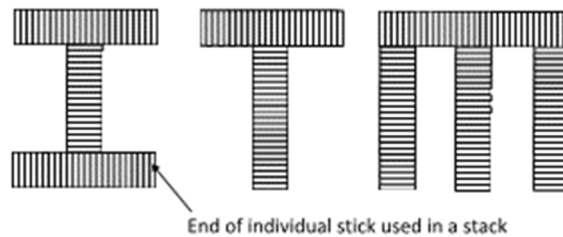
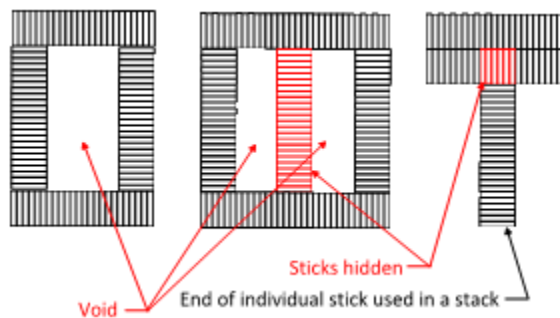

Figure 3.3: End view of members built in accordance to the 2024 Official Rules and Building Code
Figure 3.4: End view of members with voids and hidden sticks.
- At least one entire side of the longest dimension (typically the edge or face) of each Popsicle stick used must be visible for judging. Figure 3.3 illustrates appropriate ways to combine sticks; these examples demonstrate that the longest dimension of each stick used, in each stack, is visually accessible. Figure 3.4 illustrates inappropriate ways to combine sticks; these examples demonstrate that the longest dimension of each stick used, in each stack, is not accessible visually because some edges or faces are in a void.